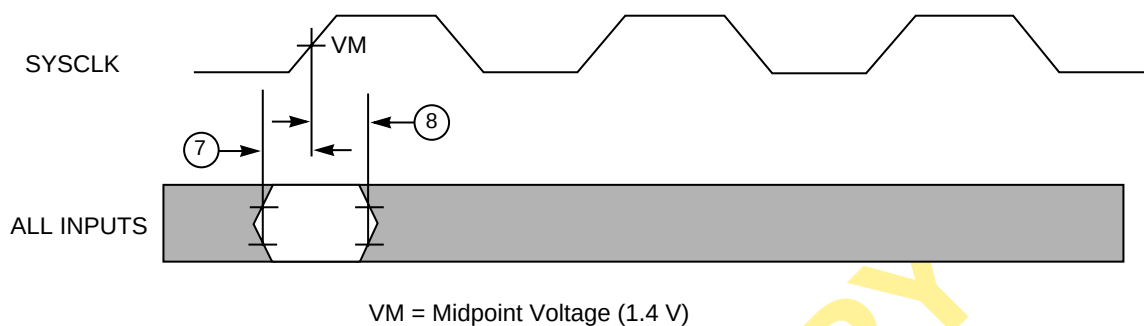
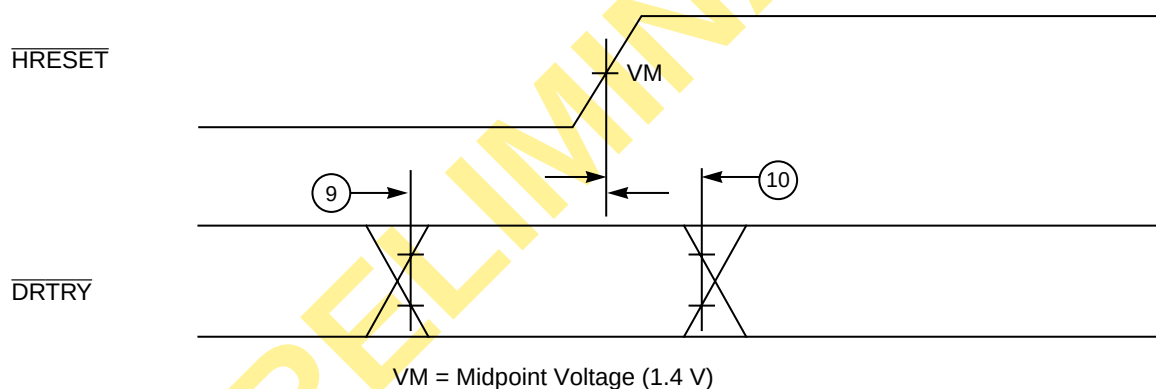

Figure 2. Input Timing Diagram
Figure 3. Mode Select Input Timing Diagram
Table 7 provides the input AC timing specifications as defined in Figure 2 and Figure 3 for 604e processors operating at 166.67, 180, 200, 225, and 233 MHz core frequencies.
- Input specifications are measured from the TTL level (0.8 or 2.0 V) of the signal in question to the 1.4 V of the rising edge of the input SYSCLK. Input and output timings are measured at the pin (see Figure 2).
- The setup and hold time is with respect to the rising edge of HRESET (see Figure 3).
Figure 2 provides the input timing diagram for the 604e.
Figure 3 provides the mode select input timing diagram for the 604e.